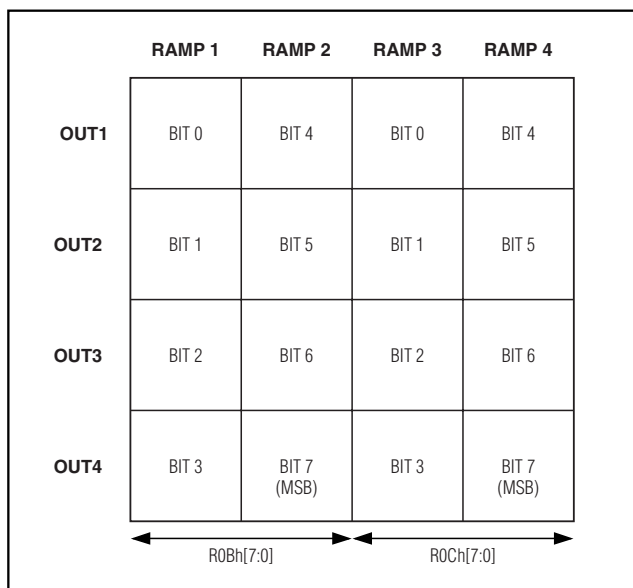

Figure 6. Mapping Tracking and Sequencing Modes
intended to provide only tracking for the four supplies (only one ramp is generated). To control one particular channel, insert a "1" in any of the four possible positions (one row for each channel contains 4 bits) and the circuit will generate the proper signals (see Figure 6).
To configure tracking and sequencing modes, insert "1" and "0" into the 0Bh and 0Ch registers (see Table 2). Figure 6 shows how to map for tracking and sequencing modes. Each OUT_n output can follow one of the four possible ramps in tracking or sequencing mode (16 bits are available) and one bit set to "1," means that the channel of the interested row is powered up/down by the corresponding ramp (see Figure 6).
- 1) If the depicted table (in Figure 6) is made by all "1s," the part simply generates a single ramp (all channels in tracking mode since the first column is full of "1s,") and it ignores the remaining values of the other 12 bits.